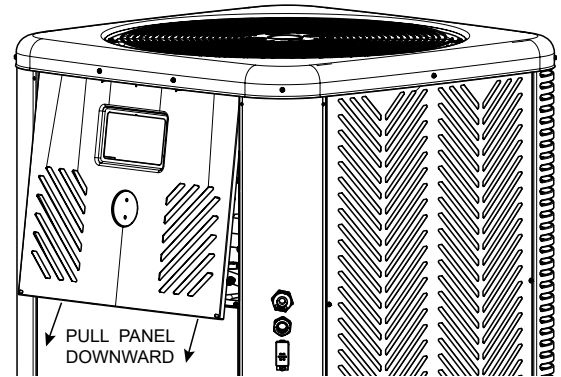
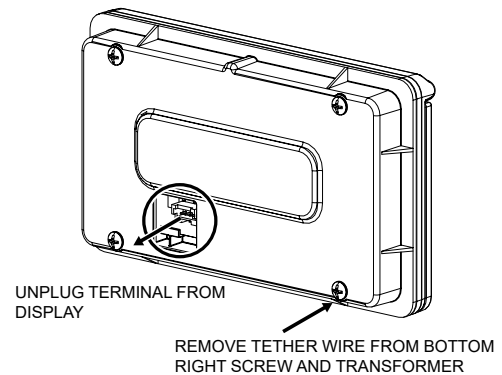

Figure 128. Detach Front Panel
Figure 129. Remove Wiring from Display
3. To remove the front panel, pull the bottom of the panel downward and outward, and then disconnect the wire attached to the rear of the user interface. The panel should now be free for removal. See **Figure 128** and **Figure 129**.